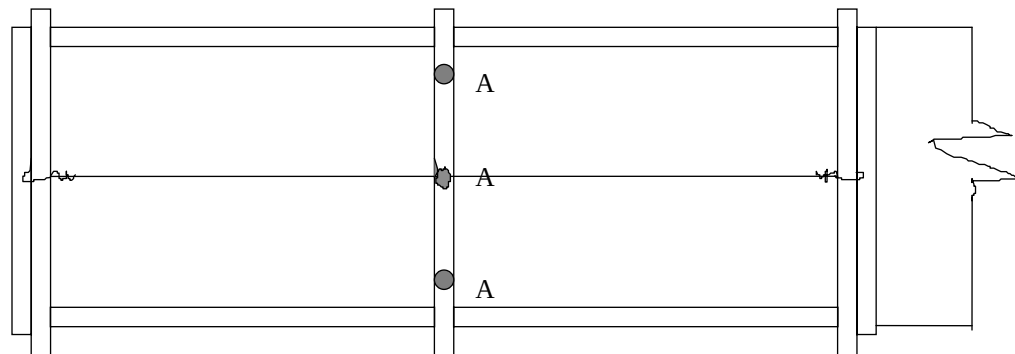

Figure 5
- a. Clamp a third metal straight edge or flat bar across the oven roughly midway between the two drums, and mark where the centerline of the oven intersects the approximate centerline of the straightedge or flat bar (see figure 5).